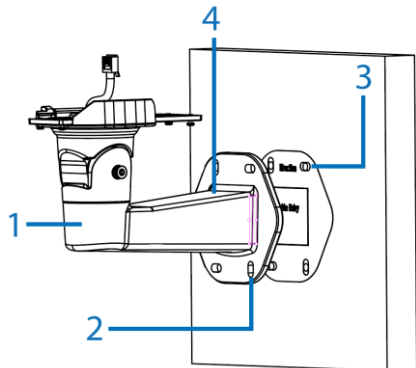

Figure 1
3. After passing all required cabling through the mounting arm, place the mounting arm (1) (Figure 1) on the surface and align the four holes on the mounting arm (2) (Figure 1) with the four screw anchors or expansion bolts on the surface (3) (Figure 1).
4. Insert the rubber plug into the top hole on the mounting arm (4) (Figure 1) to prevent water from entering the mounting arm.